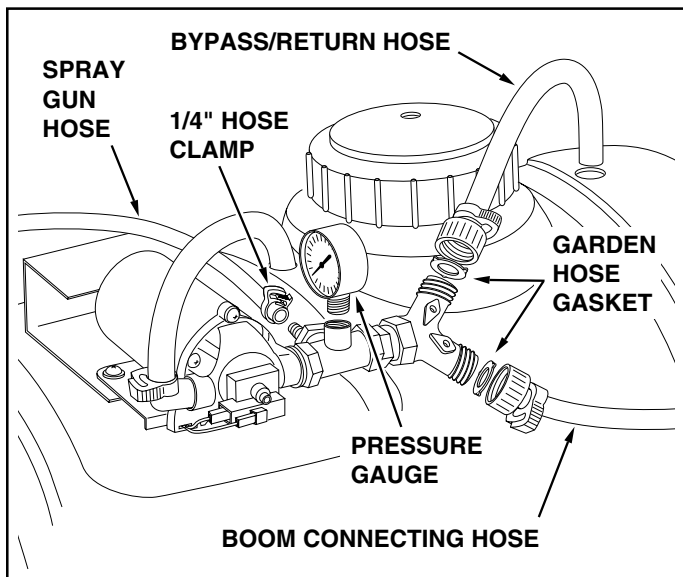

FIGURE 8
13. Insert a garden hose gasket into the swivel nut on the bypass/return hose. Screw the nut onto the upper outlet of the "Y" valve fitting. Place the other end of the hose down through the hole at the rear of the tank. See figure 8.
14. Insert a garden hose gasket into the swivel nut on the boom connecting hose. Screw the nut onto the lower outlet of the "Y" valve fitting. See figure 8.
15. Slide the 1/4" hose clamp onto the spray gun hose. Push the hose onto the hose adapter on the side of the "T" fitting as shown in figure 8. Tighten the clamp around the hose and the adapter. Wrap the hose around the tank and snap the spray gun into the clips on the side of the tank.
16. Carefully screw the pressure gauge into the top of the "T" fitting. See figure 8.